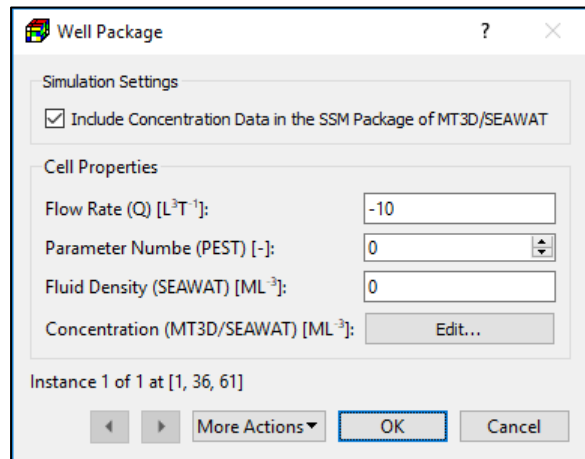

Figure 81. The Well Package dialog box for specifying cell properties
2. **Cell-by-cell input method:** Figure 81 shows the dialog box for specifying cell properties.
- **Flow Rate (Q) [L³T⁻¹]:** Negative values are used to indicate pumping wells, while positive cell values indicate injection wells. The injection or pumping rate of a well is independent of both the cell area and the hydraulic head in the cell. MODFLOW assumes that a well penetrates the full thickness of the cell. To simulate wells that penetrate more than one model layer with the WEL Package, a flow rate must be specified for each penetrated layer. The total flow rate for a multi-layer well is equal to the sum of flow rates of individual layers.